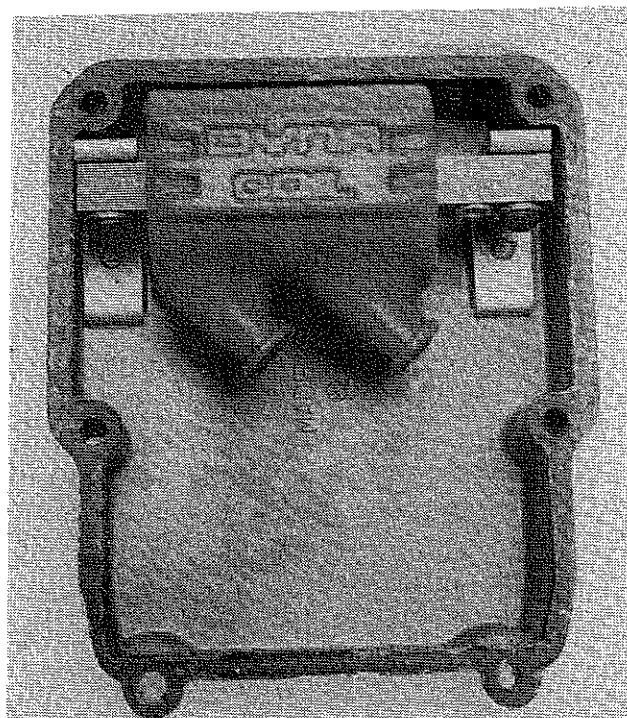

Figure 2
11. Attach ignition coil to brackets using the 1/4-28 x 7/8 button head screws and flat washers as shown in Figure 2.
12. Remove and open electrical box. Place coil/bracket assembly in back section of box as shown in Figure 2. Mark bolt positions on box and drill 2 clearance holes for $\frac{1}{4}$ bolts. Attach coil/bracket assembly to box using the $\frac{1}{4}$ -28x $\frac{3}{8}$ button head screws. Apply silicone sealant around the screw heads.